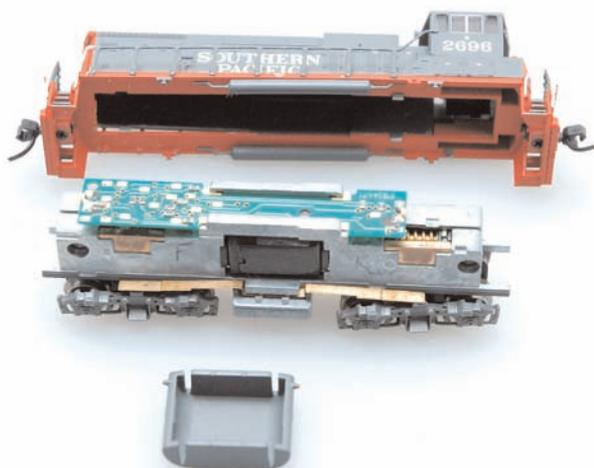

Figure 4. Atlas MP-15DC with shell ready for reassembly
6. Re-install the MP-15DC shell and fuel tank and you're done! (**Figure 4**)